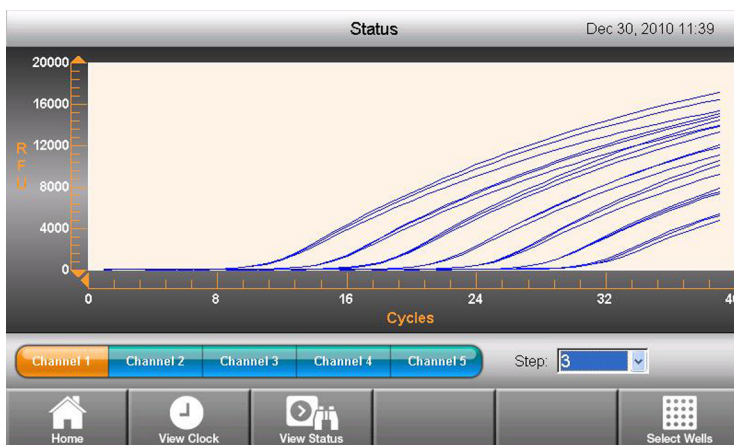

Figure 43. View real-time data traces on the Curves screen.
- View Curves.** Touch the **View Curves** button to display the real-time data traces (Figure 43). If data are being collected from multiple channels, select the channel to display using the **Channel** buttons. Data from only one channel can be displayed on